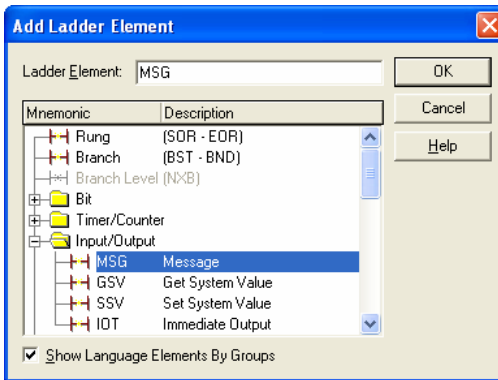

Figure 42: Adding a MSG Instruction
- Select the “MSG” instruction in the Input/Output folder. Refer to Figure 42.